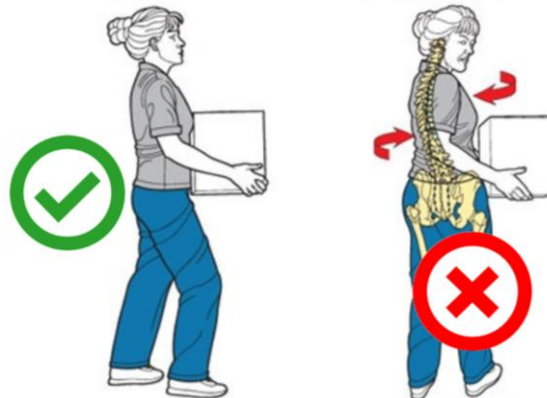

Fig. 6-4 – Handling technique
- Avoid torsions of the bust (Fig. 6-4).